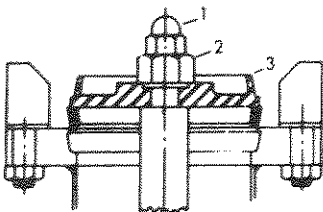

Fig. 3
3. Place new teflon seat in position shown in Fig. 3. (Teflon seat will start in tapered I.D.) Replace disc #3 in reverse position (upside down) and secure with nuts #1 and #2. Close valve to force teflon seat into proper position. The main spring will generally force teflon seat into position, if not, tap lightly on nut #1.